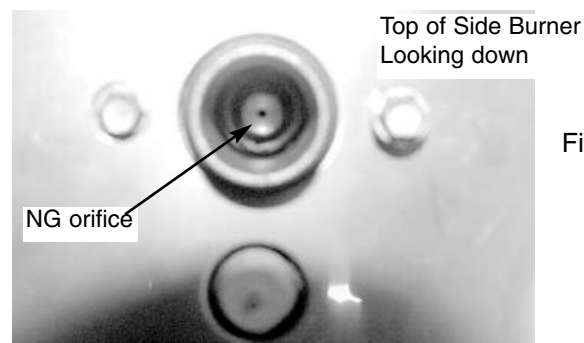

Fig 8
10. Looking down at top of side burner, use a 7mm nut driver to remove the NG. (See Fig. 8)